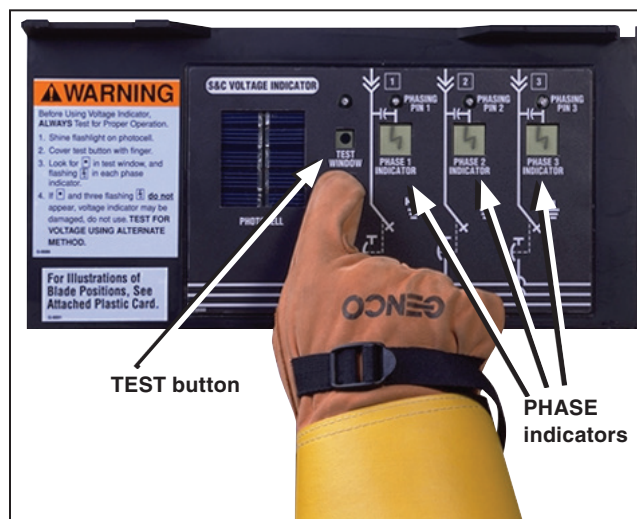

Figure 33. The presence of a dot in Test window indicates the VOLTAGE indicator is in Test mode.
- (b) If a dot  appears in the Test window and a flashing lightning bolt ⚡ in each of the three PHASE indicators, then the VOLTAGE indicator is operating properly. See Figure 33.